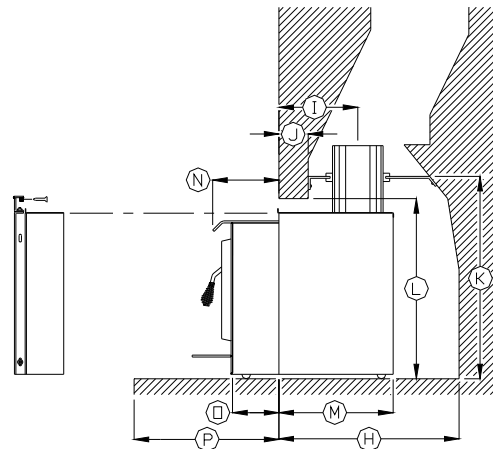

Figure 5
- A. Referring to the table and Figure 5, pick a location for the positive connector plate. It will be easiest to install the plate so that the hole for the flue is somewhere in between the extreme positions, and to use the adjustability of the faceplate to take up any inaccuracies in the fit. Alternatively, the plate itself can be moved up and back by using a 6" (152mm) extension directly on the flue.
4. **POSITIONING THE UNIT:** The more extended the insert, the greater the heat transfer to the room. When installed as an extended insert, the front edge of the air jacket will be installed flush with the fireplace facing. Otherwise the unit can be moved back as much as 3.5" (89mm) or any position in between. The position chosen will depend on your own preference for most installations (where the lintel is less than 6" (152mm) and the depth is greater than 12.5" (318mm)). See the table and Figure 5.